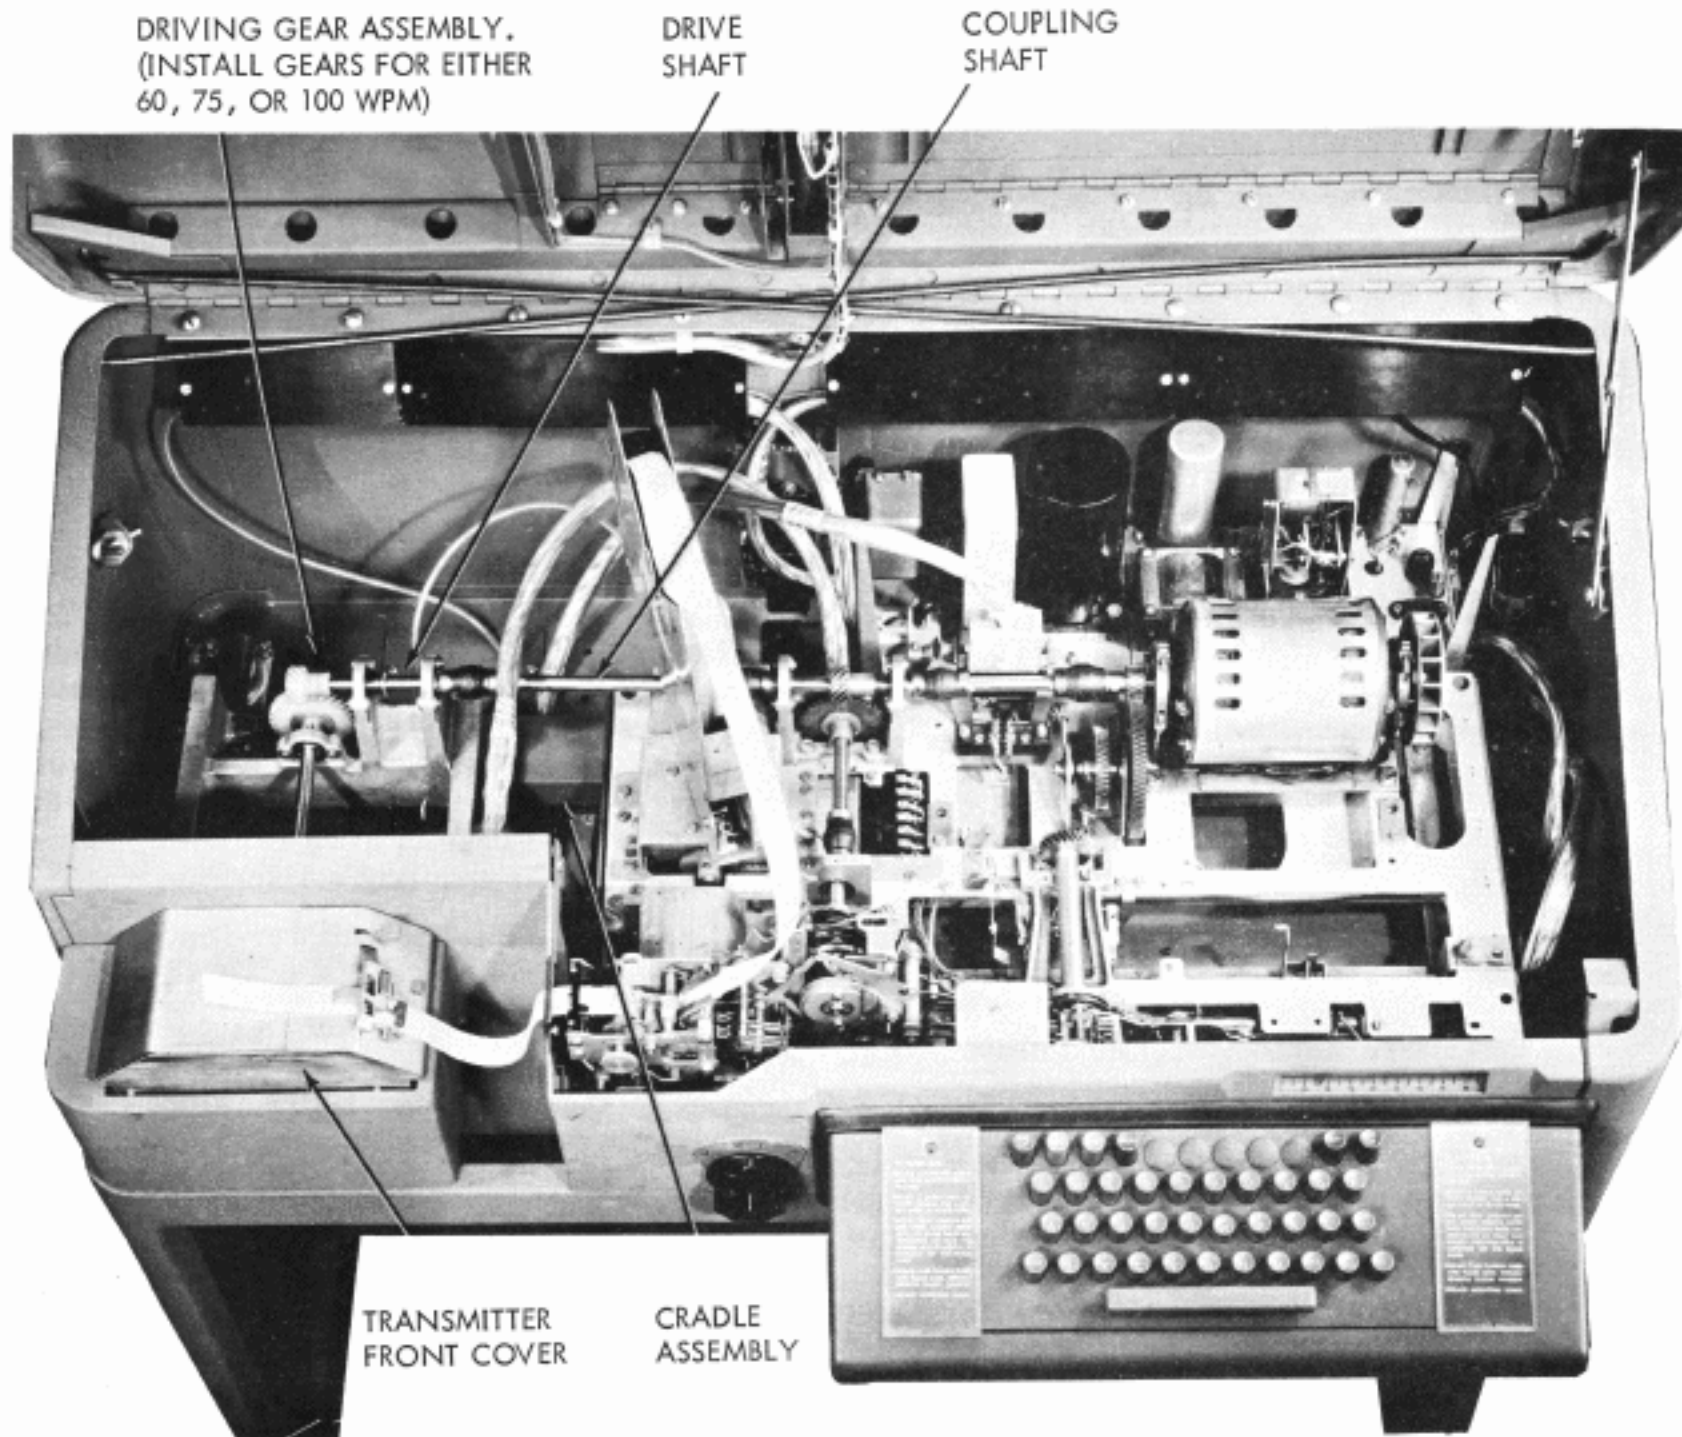

FIGURE 4-3. AUTOMATIC SEND-RECEIVE SET WITH TRANSMITTER DISTRIBUTOR BASE (LCXB)
(1) To remove the switch slide arm assembly, remove the two screws, one nut, and spacer which secure the intermediate plate to the center plate. Remove the nut which secures the bail mounting post to the center plate. Remove the intermediate plate, and remove the bail and slide arm assembly. To replace, reverse disassembly procedure.
(2) To remove the tape-out switch, remove the mounting screws that secure the switch to the front plate. Loosen the screw securing the 158535 post to the center plate. Remove the screw far enough to allow post removal. Replace in reverse order.
3. DISASSEMBLY AND REASSEMBLY OF BASE (LCXB) THAT SUPPORTS THE TRANSMITTER DISTRIBUTOR ON THE AUTOMATIC SEND-RECEIVE SET (Refer to Figure 4-3)